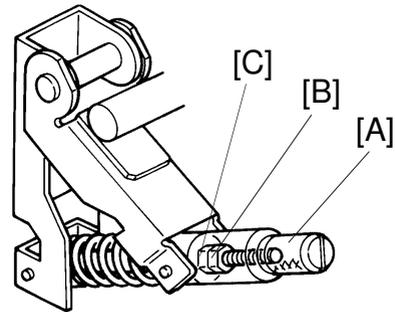

Figure 3
- 1) Remove the slotted screw [A] and the nut [B] at the **rear of the fusing unit**. See Figure 3 in the previous page.